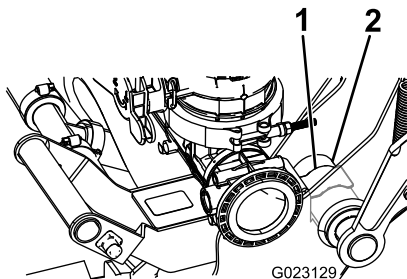

Figure 12
- D. Push until the clamp snaps over the pivot housing as shown in Figure 12.